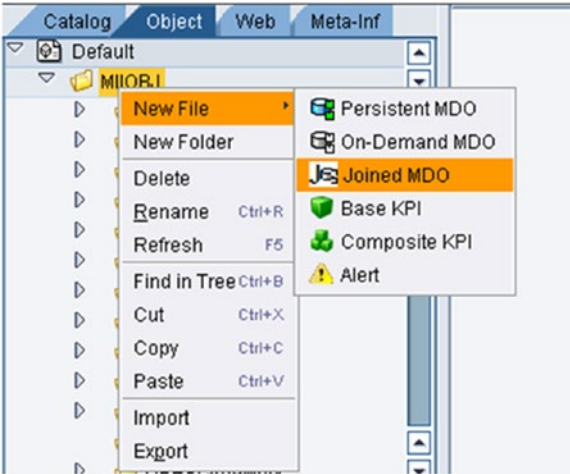

Figure 7-8. Joined MDO creation
4. Select New File ► Joined MDO, as shown in Figure 7-8.